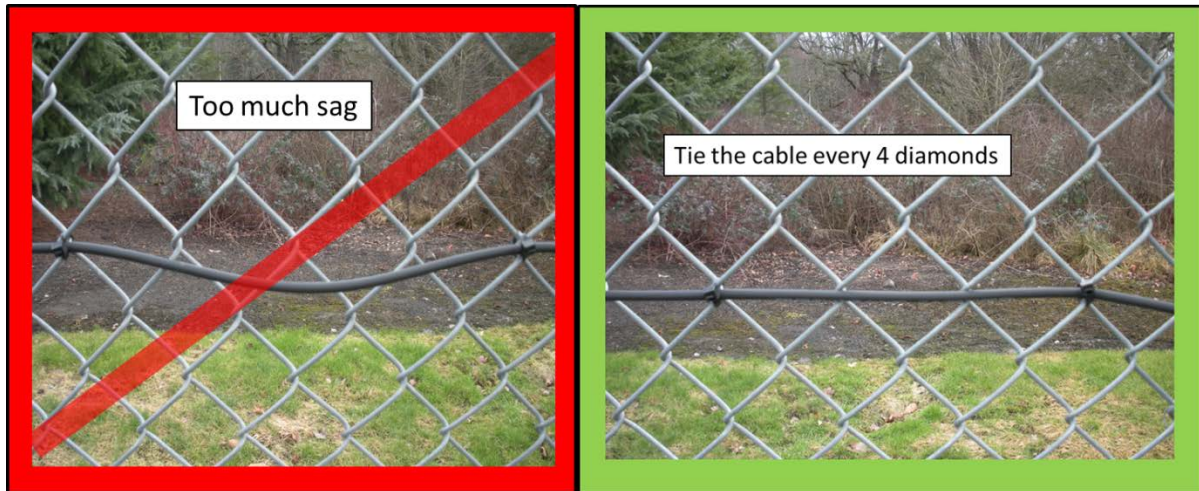

Figure 2-2. Use enough tension and zip ties to avoid sagging in the fiber.
4. Attach the ties every four diamonds, and use enough tension to prevent the cable from sagging (see figure 2-2).